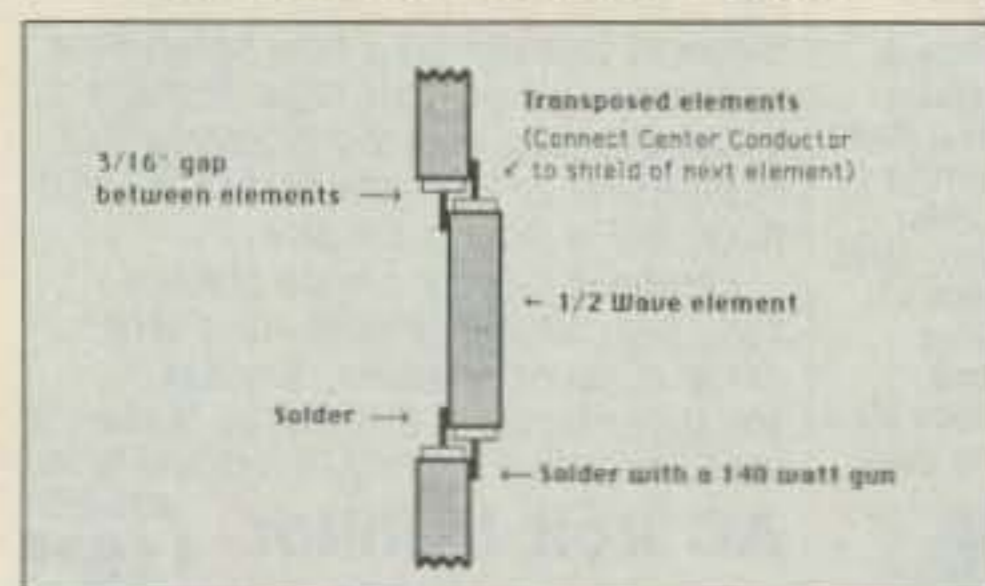

Figure 2. Element assembly.
Step 6. Solder the center conductor of each element to the outer conductor of the next element, making sure to keep the whole antenna as straight as possible. With a small wire wrapped around the tube, you can hold the center conductor in place next to the brass tube. After soldering, remove the ends of this wire with cutters. See Figure 2.